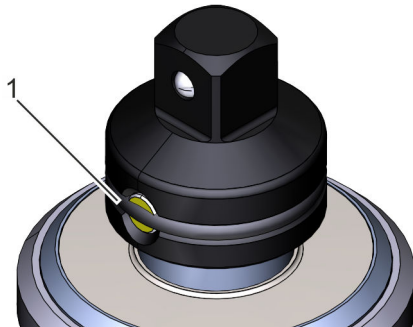

Fig. 18: Removing the drive square adapter circlip
1. ➤ Remove the circlip (Fig. 18/1) from the drive square adapter.